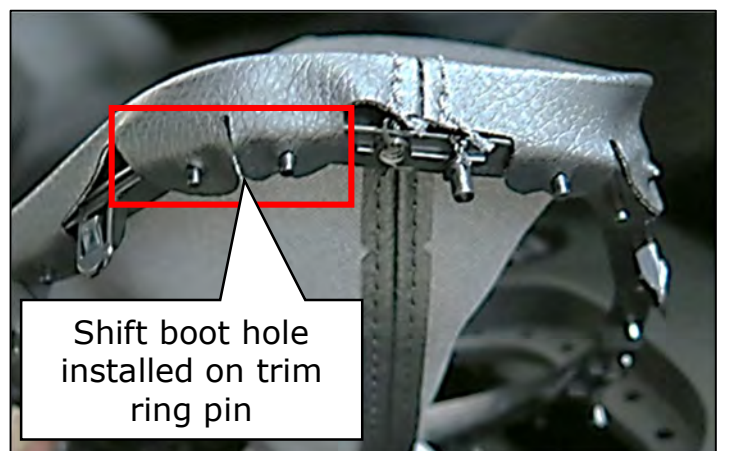

Figure 139
133. Carefully install the shift boot over the trim ring. (Figure 139)
- Align the shift boot holes with the trim ring pins as shown in Figure 139